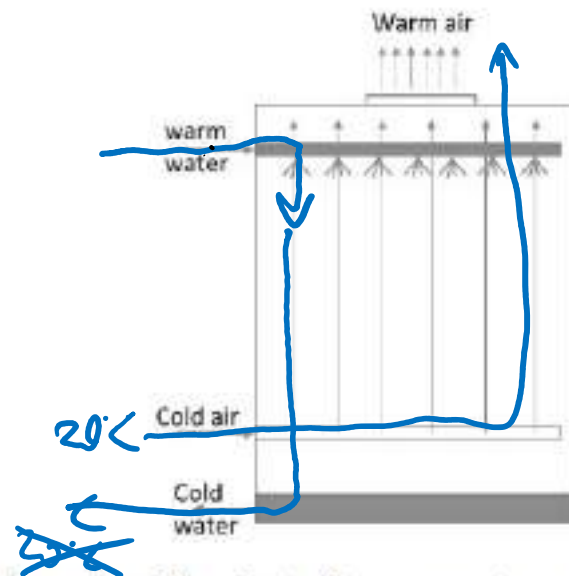

Figure 2 – Schematic of the duct with warm water and cold air in counterflow.
- (b) Inside a duct, warm water at 40°C and cold atmospheric air at 20°C and 20% relative humidity are encountered in counterflow mode, as shown in Figure 2.